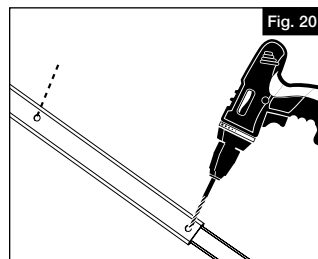

Fig. 20
- Pre-drill through the two provided brace holes with $\frac{1}{8}$ " drill bit. Then, secure brace together at the measured length with provided #8 x $\frac{3}{8}$ " blunt end screws (2) in the center of the brace (Fig. 20).